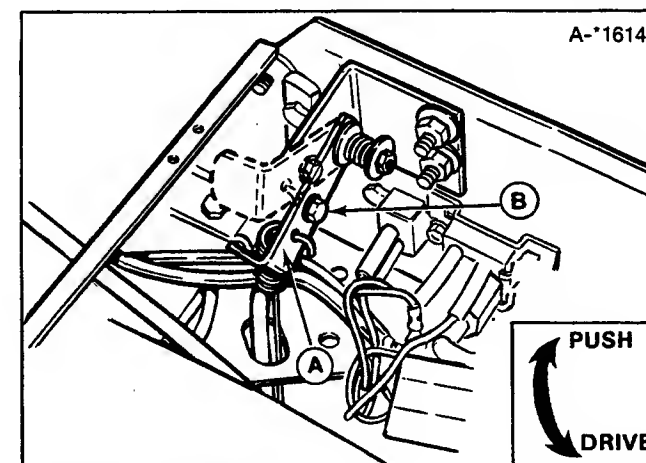

Figure 9. Release Valve
To push the tractor by hand, the transmission must be disengaged by moving the release valve. To release the valve, open seat deck, pull up on the release lever (A, figure 9), and insert screw (B) into upper bracket hole (shown in dotted
lines in figure 9). Release valve must be repositioned in the bottom (drive) hole before tractor will move in a forward or reverse direction.